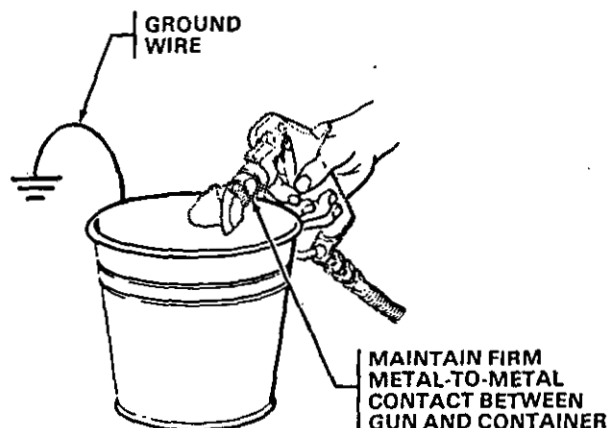

Fig 4
- f. Hold a metal part of the gun firmly against and aimed into a metal waste container. See Fig 4. Squeeze the trigger and hold it open, turn the ON/OFF switch to ON, and slowly increase the pressure setting until the sprayer starts. This procedure reduces the risk of static electric discharge and splashing. Keep the gun triggered until all air is forced out of the system and the paint flows freely from the gun. Release the trigger and engage the safety.